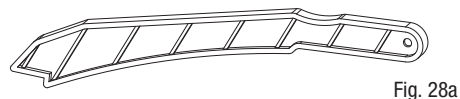

Fig. 28a
HOW TO MAKE AN ADDITIONAL PUSH STICK (Fig. 28a-28b)
- In order to operate your table saw safely, you must use a push stick whenever the size or shape of the workpiece would otherwise cause your hands to be within 6" (15 cm) of the saw blade or other cutter. A push stick is included with this saw (Fig. 28a).